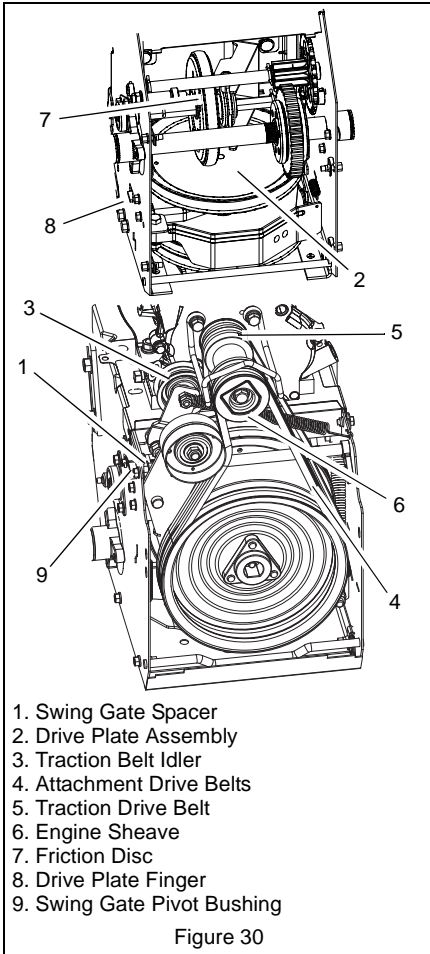

Figure 30
2. With traction clutch disengaged, check that drive plate finger touches the side of hole closest to auger housing (Figure 30).
3. Remove swing gate spacer and slide drive plate over so that finger clears stop hole in frame and can swing past it (Figure 30).